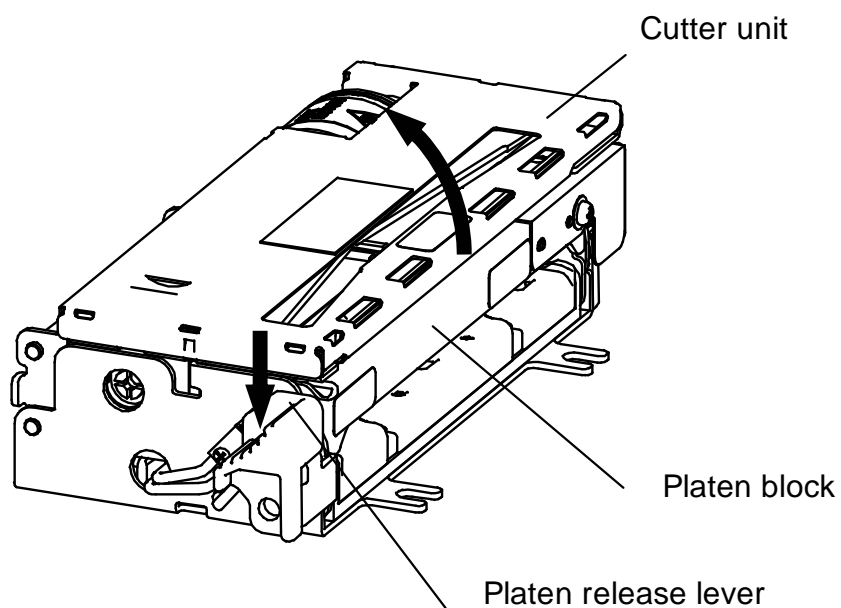

Figure 8-4 How to Open the Cutter Unit and the Platen Block
(2) Unloading thermal paper
- In order to open the cutter unit, lift it up to the direction of the arrow mark shown in the Figure 8-4. Push the platen release lever down to open the platen block. Pushing other areas may cause print defects or cutting defects.